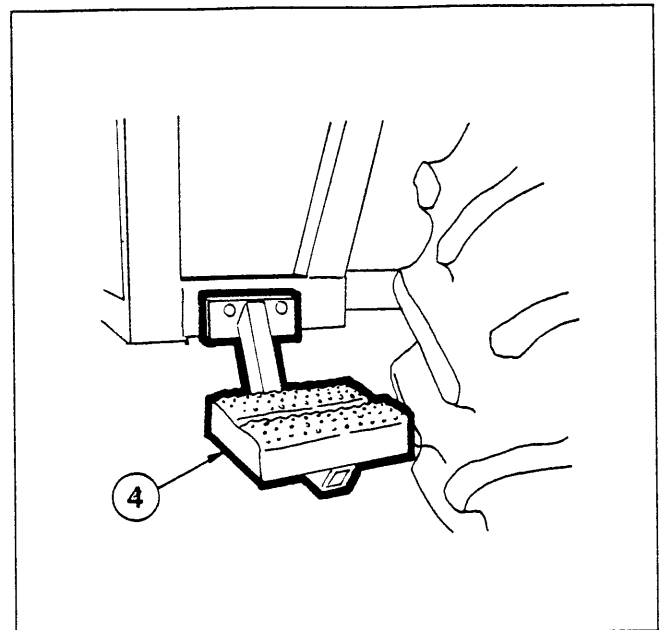

Figure 4
10. Take one of the steps (4) and position it against the step mount located at the bottom of the left door opening. Bolt the step to the mount using the 3/8"x3/4" whiz bolts provided. (see figure 4)